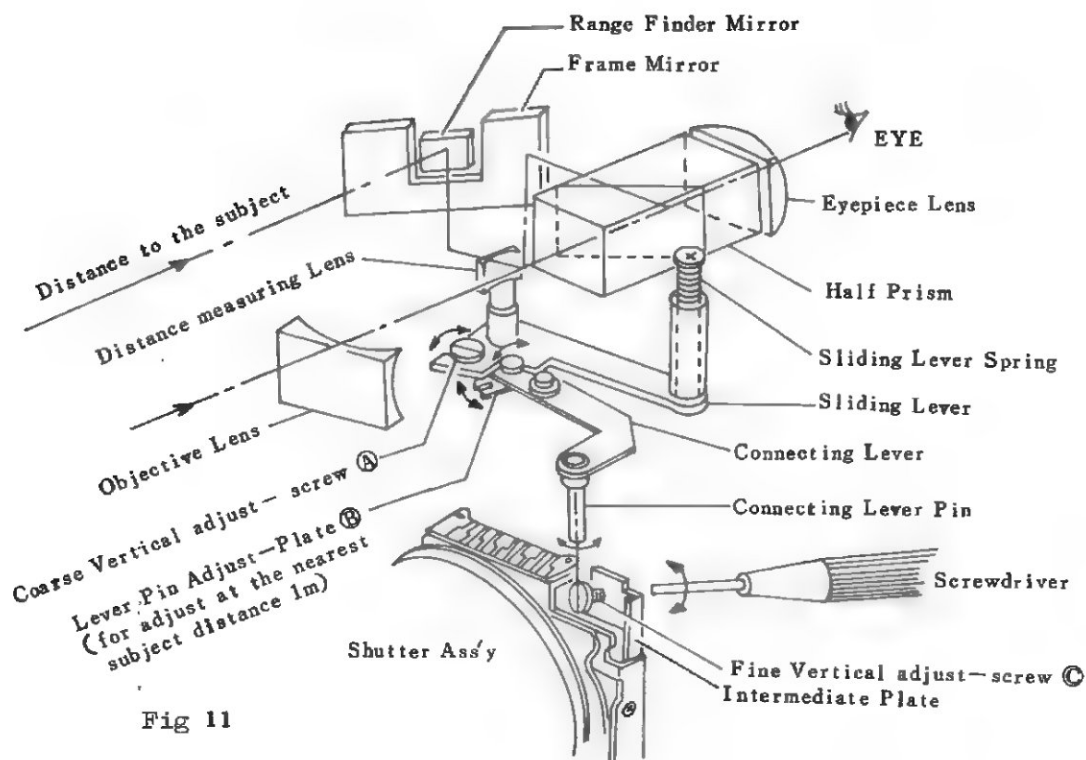

Fig 11
It located under the Range-finder Base. See (Fig 11)
And adjust fine adjustment of vertical, adjust by turning the fine vertical adjust-screw (C) as shown in (Fig 11).